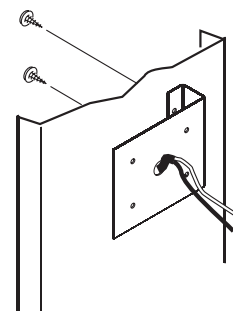

Figure 34
4. Attach the bracket to the outer casing with two (2) 8 x 3/8" Phillips screws. (Figure 34)